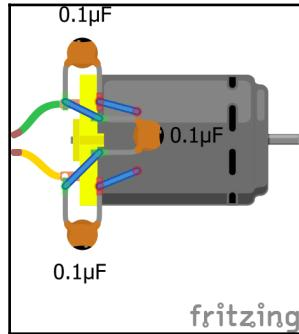

Figure 5-4: Three $0.1 \mu\text{F}$ ceramic capacitors soldered to the motor for greater noise reduction
2. Solder three capacitors to your motor, one across the terminals and one from each terminal to the motor case, as shown in Figure 5-4: